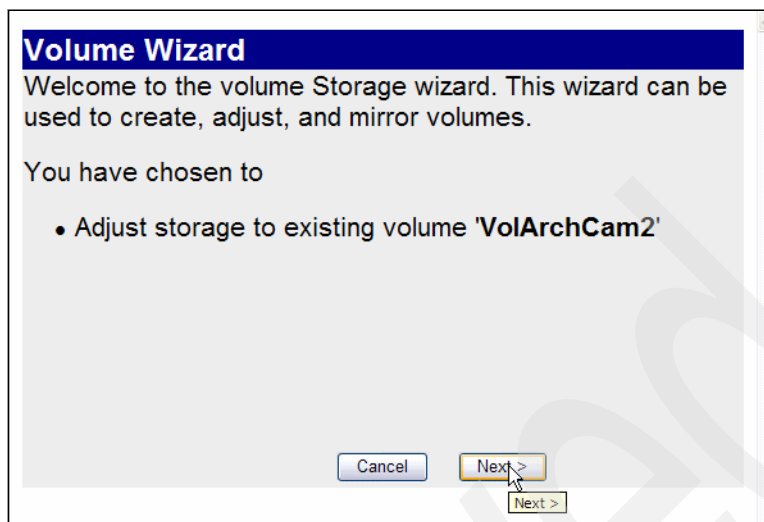

Figure 9-11 Volume Wizard
- When the Volume wizard is displayed, click **Next**, as shown in Figure 9-11 on page 301.